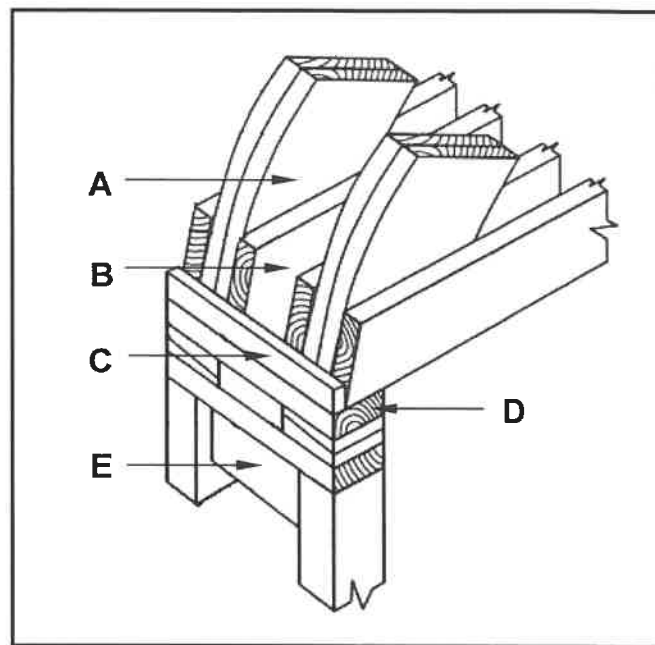

FIGURE 5.1
- 5.1 FIGURE 5.1 below shows the construction detail at the foot of a centre. Identify parts A to E.